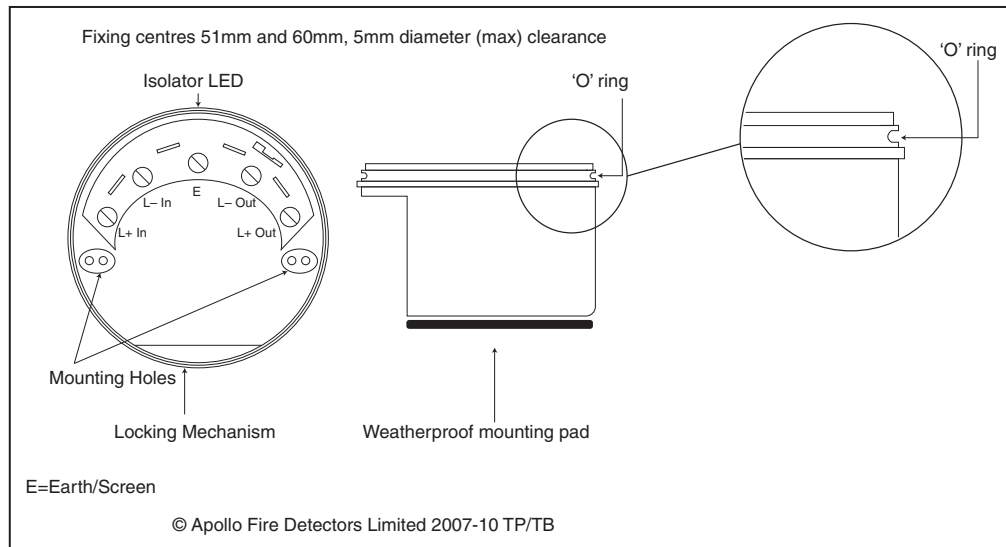

Fig 2 Base diagram
2. Secure the base to the mounting surface with pan-head screws. If IP65 integrity is required, fit the weatherproof mounting pad between the base and the mounting surface. Fit the 'O' ring to the base (Fig 2) using a lubricant such as silicone grease.
4. To lock the sounder in the base, snip the break-out on the base rim (location shown in Fig 2). Fit the sounder to the base.